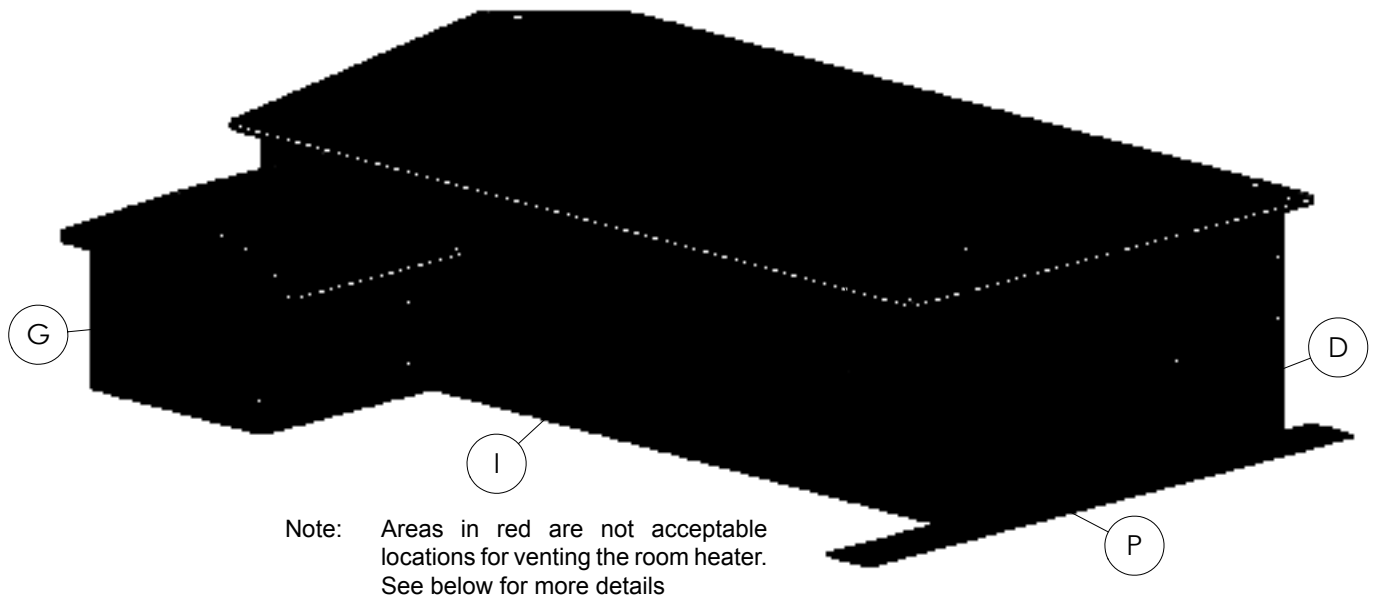

Figure 7
1. Place the Room Heater according to the installation instructions. See Figure 7 for vent locations.
1. Place the Room Heater according to installation instructions. See Figure 7 for vent locations.
2. Locate vent termination per the NFPA rules. See Figure 7 (page 11).